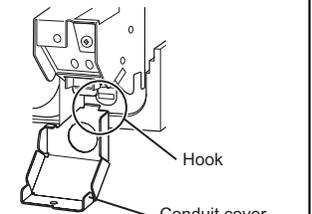
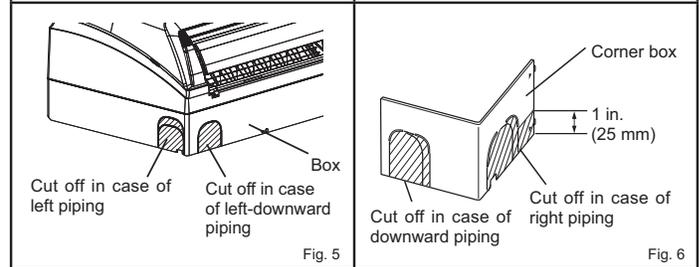
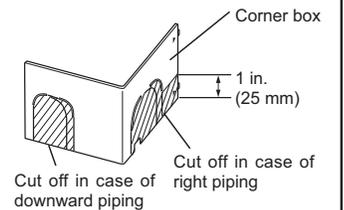

Fig. 4
Fig. 5
Fig. 6
- 8) Secure indoor/outdoor unit connecting wire (A) and the ground wire with conduit cover. Never fail to hook the claw of the conduit cover to the electrical box. Attach the conduit cover securely. (Fig. 4)
- 9) According to the piping direction, cut off the shaded part of the left side of box (Fig. 5) or corner box (Fig.6). Reinstall corner box and front panel.
- Insert the drain hose fully into the drain pan at the rear right of the indoor unit. (Fig. 4)
- Insert the drain hose into wall hole sleeve (C), and hook the upper part of indoor unit on installation plate (1). Then, move the indoor unit completely to the left in order to make placing the piping in the back space of the unit easier.
- Cut out a piece of cardboard from the shipping box, roll it up, hook it onto the back rib, and use it as a spacer to lift the indoor unit. (Fig. 5)
- Connect the refrigerant piping with the extension pipe (B).
- Thrust the lower part of the indoor unit into the installation plate (1).
- 4) Flaring work (Fig. 4, 5). Firmly hold copper pipe in the dimension shown in the table. Select A mm from the table according to the tool you use.
- Compare the flared work with Fig. 6.